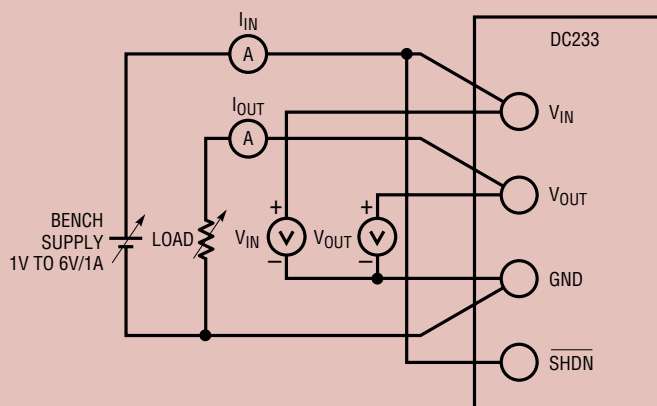

Figure 2. Proper Hook-Up for Evaluating the DC233
6. Proper hook-up is essential for accurate and meaningful evaluation of efficiency and regulation. Figure 2 shows the appropriate arrangement of the supply, load, ammeters and voltmeters.
DC233 contains fairly simple, low power switching regulators. However, some precautions are necessary in order to test the circuits safely. Proper hook-up and accurate measurements are necessary for meaningful evaluation of efficiency and line and load regulation. Refer to Figure 2 for proper connections.
Figure 2 shows connections for the proper measurement of efficiency and output regulation. The input and output voltages are measured at the DC233 terminals in order to avoid including voltage drops across ammeters and terminal connections. It is best to take all of these measurements at one time. Be aware that most digital multimeters drop significant voltage when they are used as ammeters, so you must measure the input voltage while the ammeter is in the circuit—the input voltage will be lower than the voltage at the output of your benchtop supply.